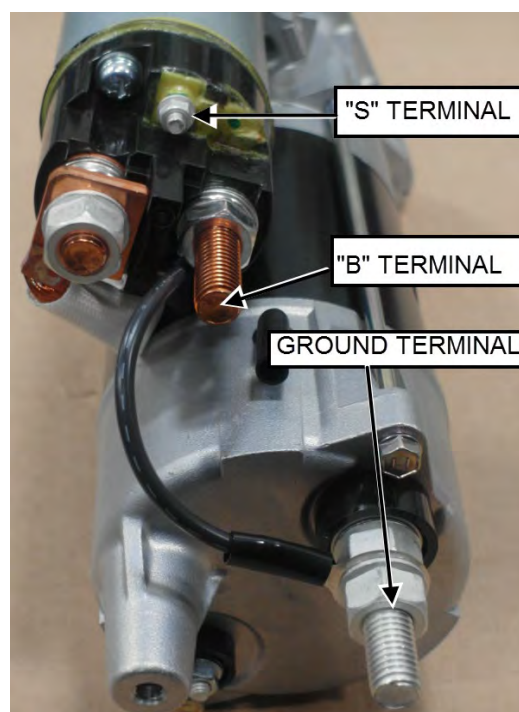
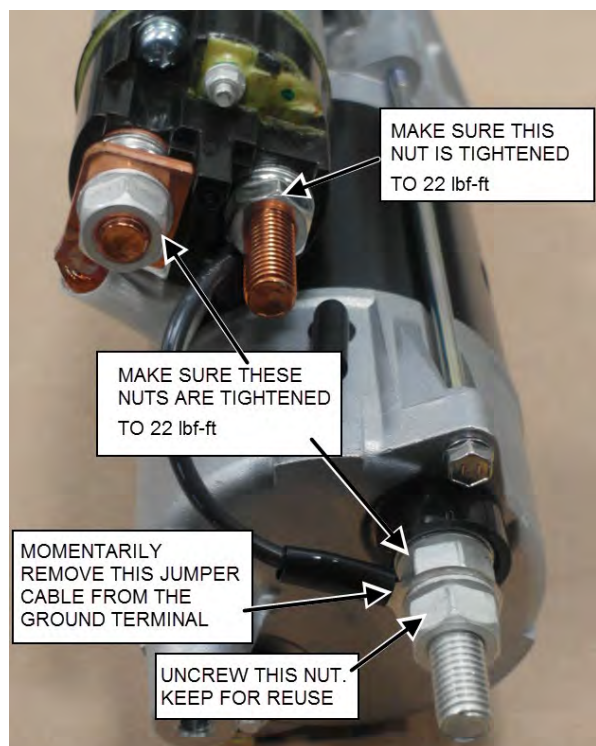

FIGURE 4 : TERMINAL IDENTIFICATION
FIGURE 5
1. If the starter is replaced with a brand new starter, prepare the new starter as follows (refer to FIGURE 5).
- a) Remove the second nut on the ground terminal (FIGURE 5). Keep for later use.
- b) Remove the jumper cable connected to the ground terminal (FIGURE 5).
- c) Make sure that the three nuts identified on FIGURE 5 are tightened to a torque of **22 lbf-ft**.
7. Connect circuit **101** to **B** terminal (FIGURE 4 & FIGURE 5). Position circuit **101** cable to be in line with the nylon tie mount on the starter.
9. If not already done, remove the nut and washer provided with the brand new starter on **S** terminal (FIGURE 4).